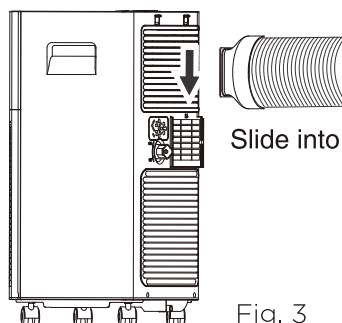

Fig. 3
- Install the Hose Inlet into the groove at the back of the unit and extend the exhaust hose. (see Fig. 3)